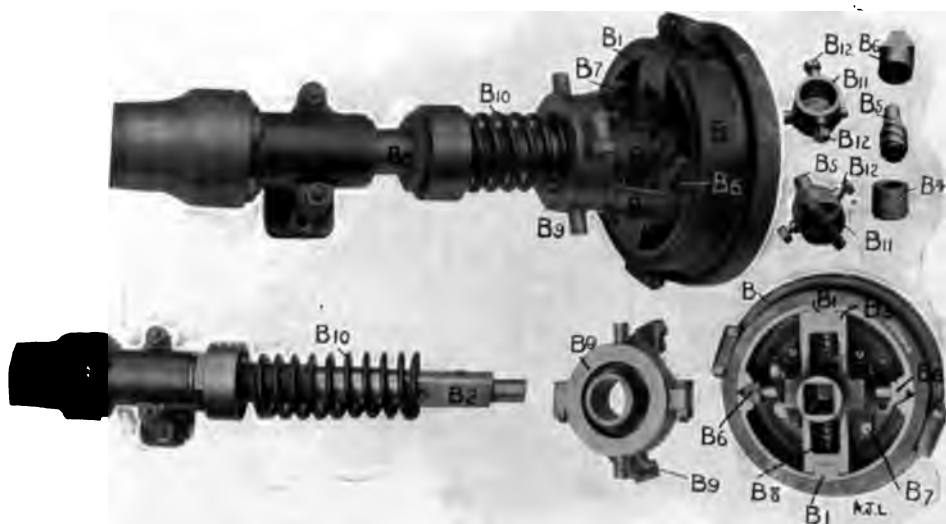

FIG. 5
The metal clutch (Fig. 5), which transmits the power from the engine to the gear shaft, is constructed with a cast-iron ring (B) attached to the fly-wheel, and is provided with grooves similar to grooves turned in the split rings (B), which form the expanding portion of the clutch. These rings are operated by means of wedges (B 6), which are advanced and retreated by levers (B 7) and screws (B 5), the latter working in spherical nuts (B 4). These levers are moved backwards and forwards by means of a sleeve (B 9) on the shaft, operated in the usual manner with a forked arm. The spring (B 10) is adjustable, and the clutch is controlled in the usual way by a foot lever. The adjustment for wear is very easily and quickly accomplished by means of two set screws (B 12), which project into cavities, a number of which are formed in the sides of the spherical nuts (B 4). All that is necessary to take up the wear of the clutch is to slacken back these set screws and rotate the nuts until the next cavities register with the set screws, which are then tightened up again. An annular chamber is provided in the outer ring to carry a quantity of oil, which is supplied constantly to the clutch; and the effect of the grooves is to keep the whole of the working surfaces of the clutch constantly lubricated. This causes the clutch to have a very sweet action, and relieves the car from shock, even if the clutch be let in suddenly, as may be sometimes done.